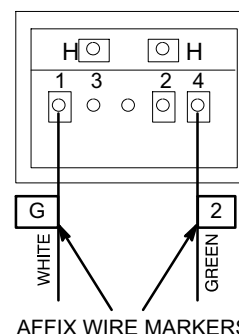
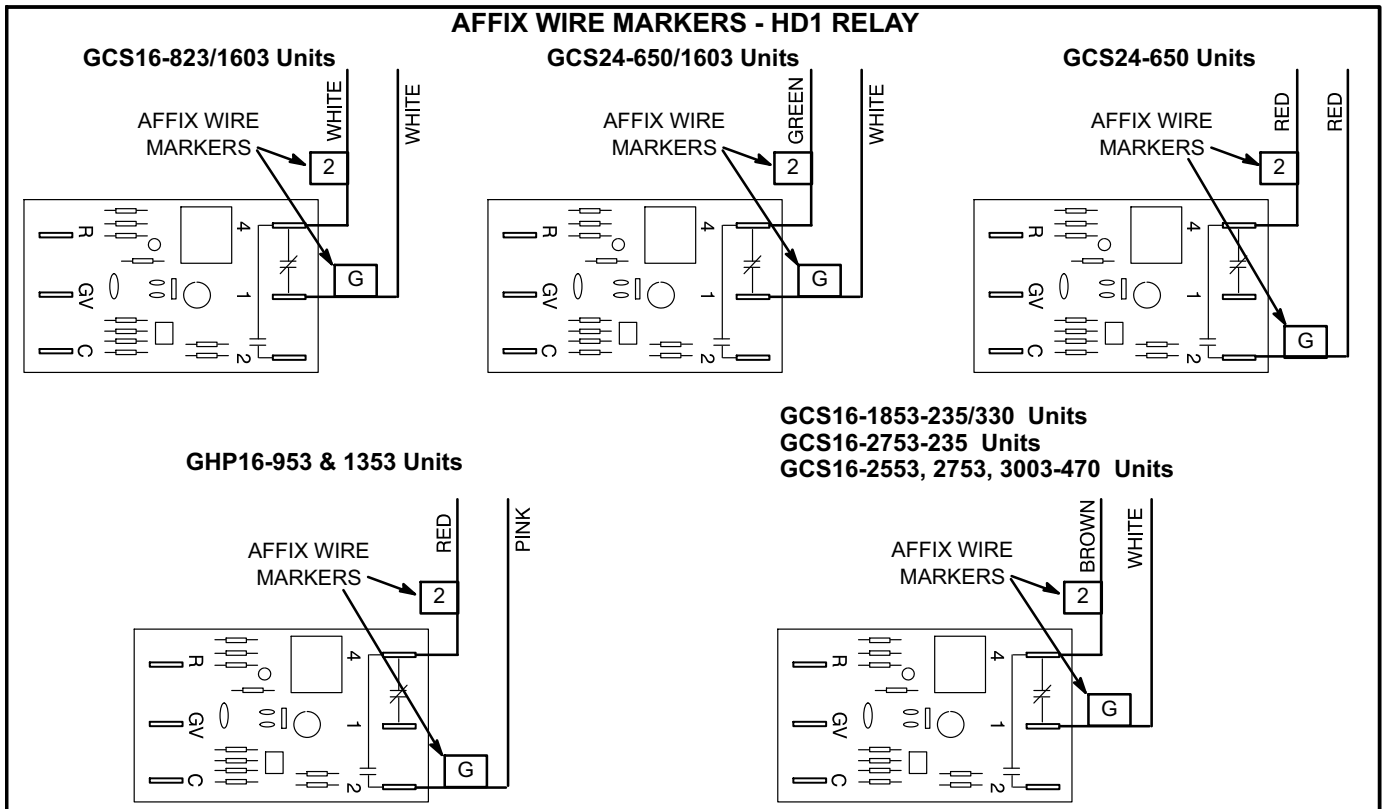

FIGURE 1
FIGURE 2
- 2- Affix wire markers to existing K25 relay wires if the marker is not already there or readable. See figure 1 for Camstat relays and figure 2 for HD1 relays.